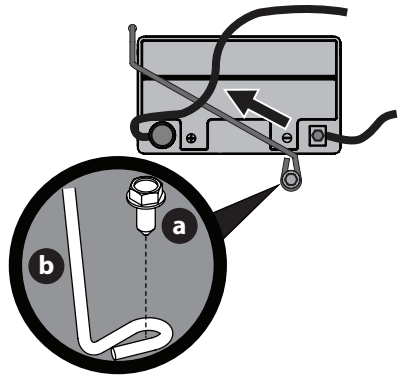

Fig. 15
NOTE: Wiring harness should lay on top of battery hold down rod, otherwise damage to the wiring harness may result (Fig. 15 on page 13).
3. Remove the hex washer screw (a) securing the battery hold-down rod (b) to the frame. Then flip the battery hold-down rod (b) up to free the battery (Fig. 15).